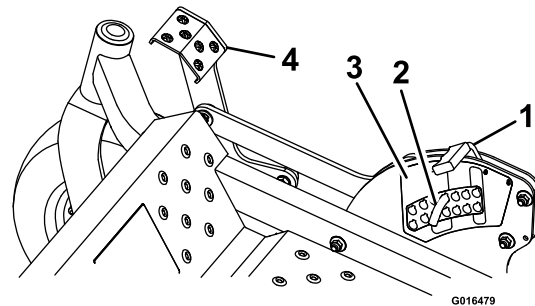

Figure 16
3. Raise and lock the deck to the 5 inch (12.7 cm) transport position (Figure 16).